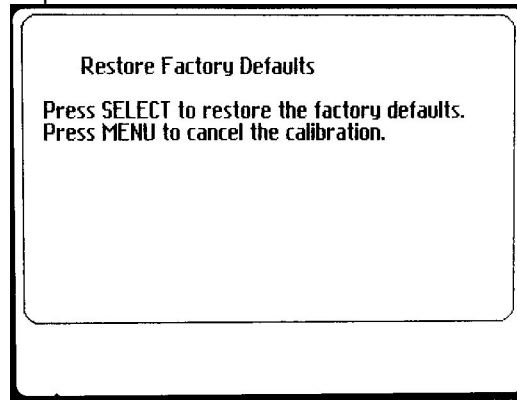

Figure 34 - Restore Factory Defaults - TSS
3. From the RESTORE FACTORY DEFAULTS screen (Figure 34), press SELECT. The PT2 will return to the previous menu.